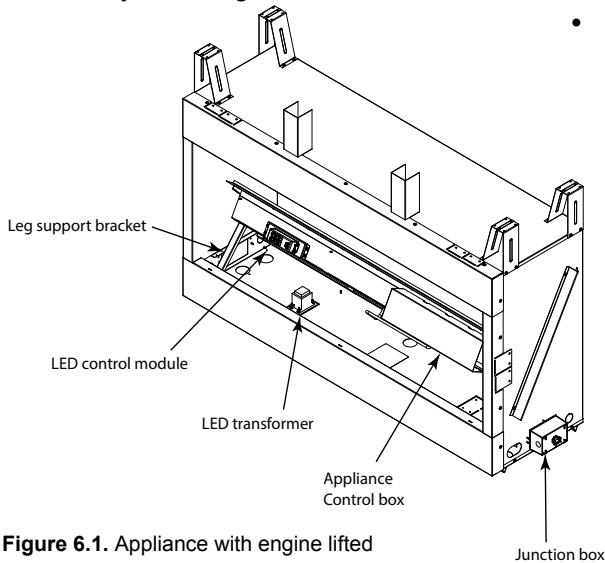

Figure 6.1. Appliance with engine lifted
The valve and controls are located in the appliance control box. See Figure 6.1.
The control box and controls can be accessed by lifting engine assembly and shown in Figure 6.1
- Remove two (2) screws securing burner assembly to appliance, set aside.
- Lift the burner assembly and place the two engine supports, provided under the Engine, against lower front space at the bottom of the face, and slide into the slots at the bottom of the engine assembly. See Figure 6.1.